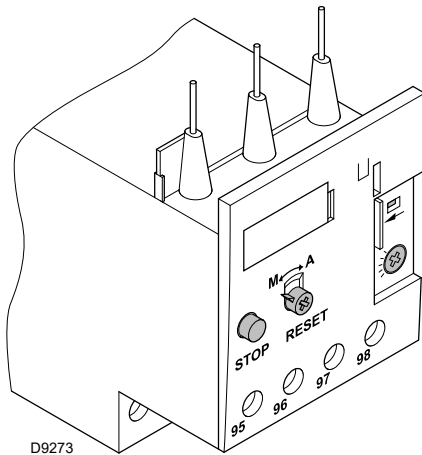

Fig. 37
The electro-mechanical overload relay (Fig. 37) is used to avoid damage to the motor owing to a strong increase in absorption or the lack of a phase.
- To reset, in the case of an intervention of the overload relay, press the button “RESET” (Fig. 37).
- The button “STOP” (Fig. 37) opens the NC (95-96) contact and stops the motor.